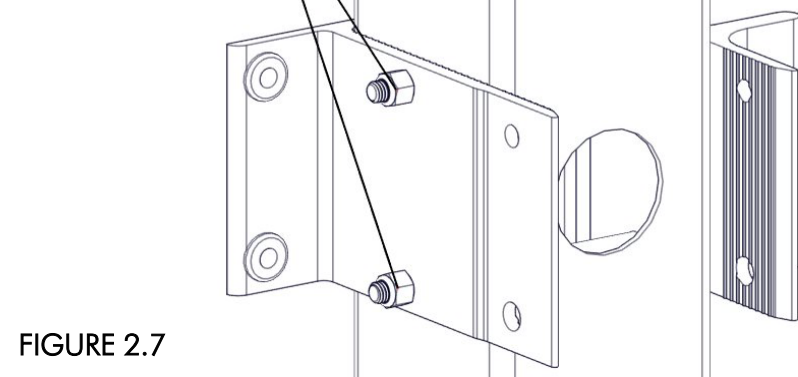

FIGURE 2.7
- ORIENT BALL SCREW TUBE BETWEEN CORNER POSTS "A" & "B" WITH GREASE HOLE AND SUPPORT BOLT VISIBLE ON OUTSIDE OF LIFT (FIGURE 2.7).